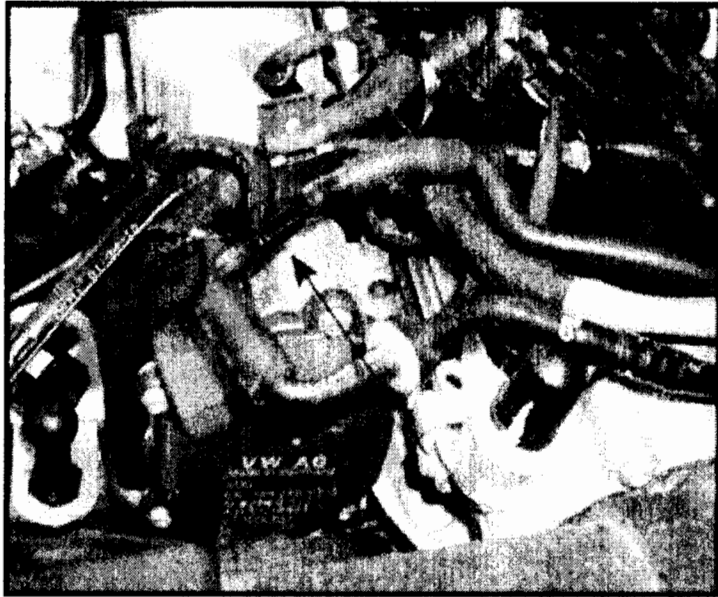

Figure 7
- Cut vacuum source hose where indicated in figure 7, and install splice.